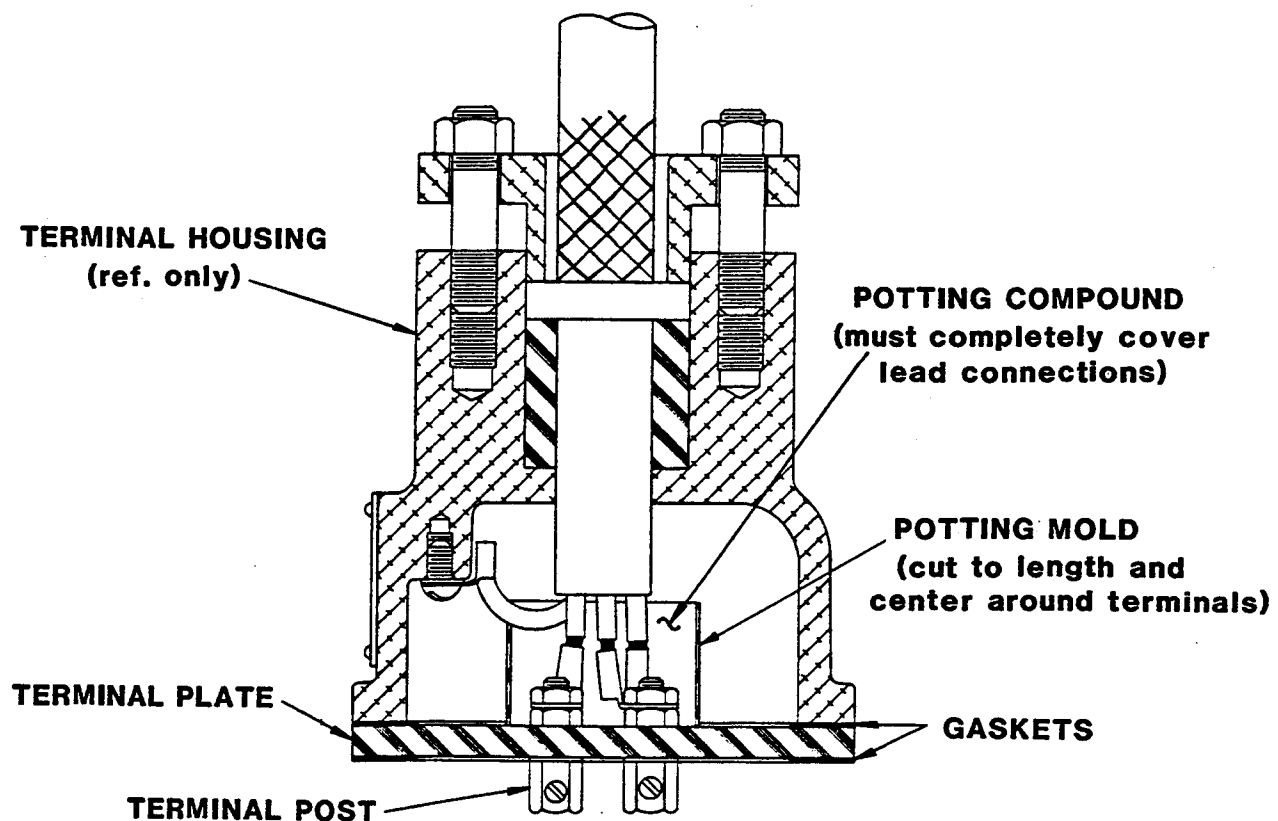

Figure 3. Potting Power Cable Leads In Terminal Housing
When shipped from the factory, the cable leads and terminals were encapsulated in heat-shrink tubing (48) and bonded to the terminal plate (52) with hot-melt adhesive to provide a water-tight seal. These materials are included in an optional repair kit listed in the parts list; however, since a glue gun with the required temperature range is not generally available in the field, it is recommended that a repotting kit available from Gorman-Rupp (see optional equipment in parts list) or a commercially available kit (Products Research Corp., part no. PR-1201-Q Class 1 potting compound, or equivalent) be used to reseat the connections. See Figure 3, and the following instructions.
Trim the potting mold so it is just long enough to cover the terminal post studs (see Figure 3). Slide the potting mold up over the three standard leads of the power cable (42).